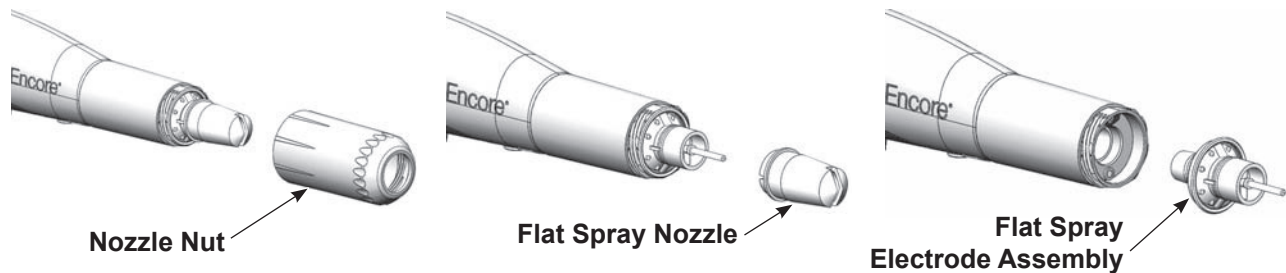

Figure 4-6 Changing a Flat Spray Nozzle
2. See Figure 4-6. Unscrew the nozzle nut counterclockwise.